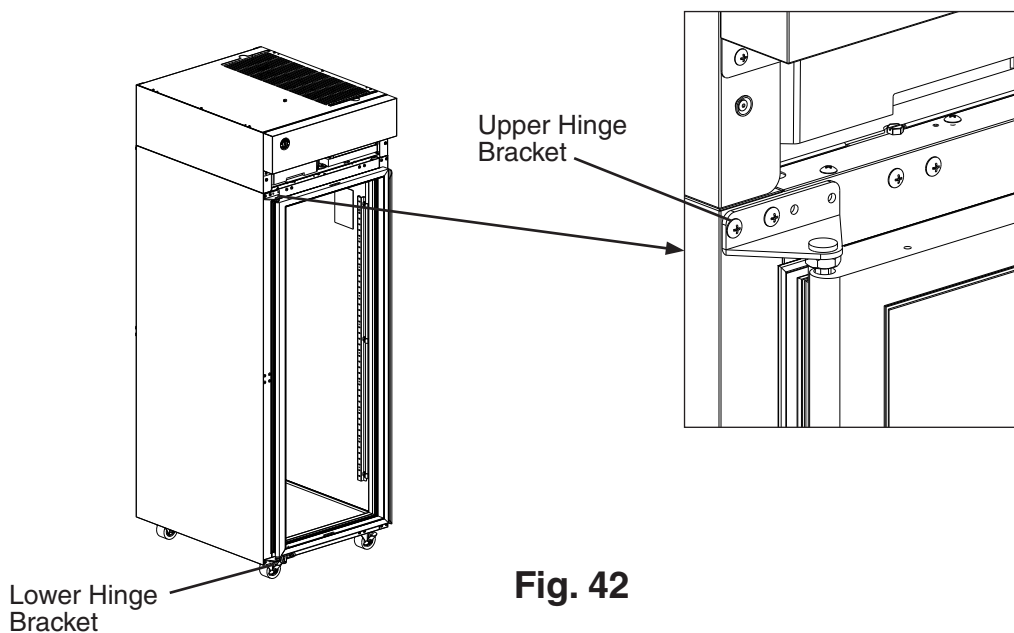

Fig. 42
- 17) Place the door on the lower hinge bracket in the closed position, then secure the upper hinge bracket to the cabinet. See Fig. 42.